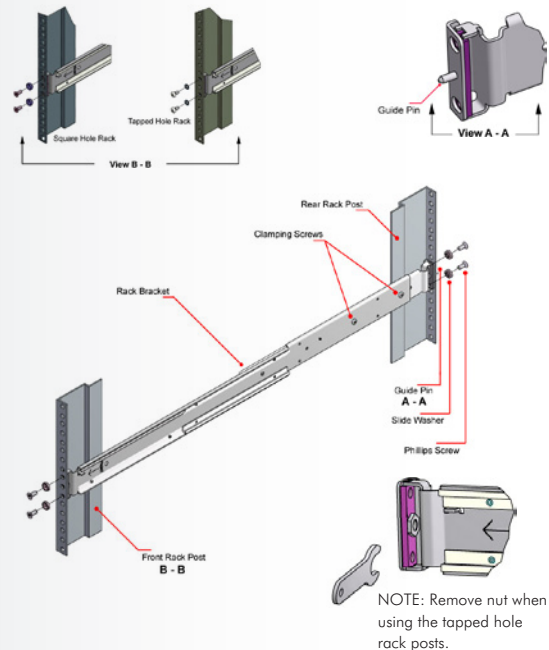

Fig. 27 - Securing Chassis Slides to Enclosure - Left Hand Assembly Shown
7. Assemble the rack brackets to the rack posts as follows. The brackets are universal and will fit either side. (refer to Fig. 27):